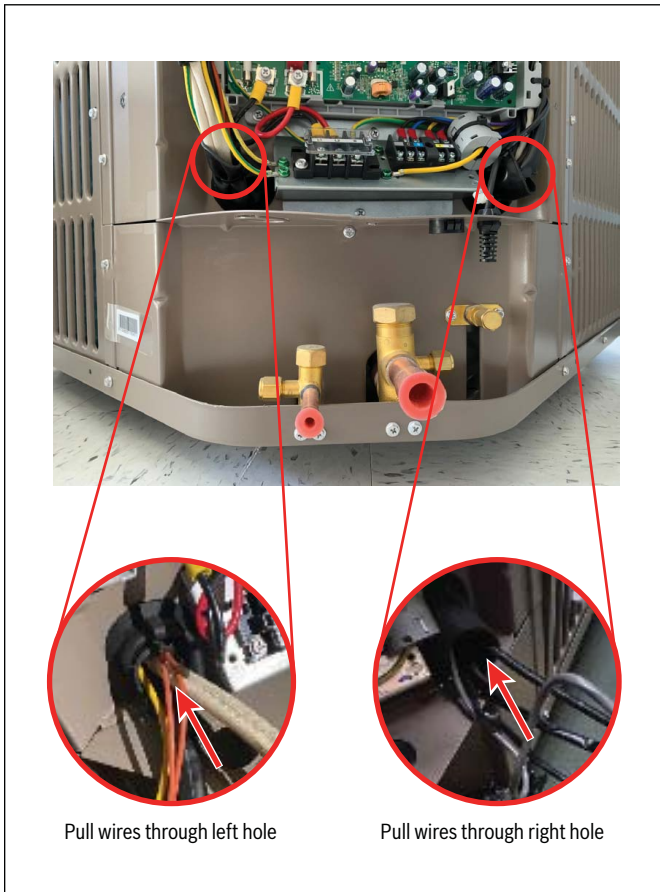

Figure 5 Remove Wires From Holes in E-Box
7. Carefully pull the wires from the bottom left and right hole through the back of the E-Box. See Figure 5.